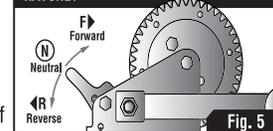

Fig. 5
1. To pull line off: First place the ratchet in reverse or neutral position. Fig. 5 To pull line off the winch, extreme caution should be used. Never let go of the handle. Be certain that all people and objects are clear of the area to insure that they will not be struck and injured by a spinning winch handle as you pull line off the winch.